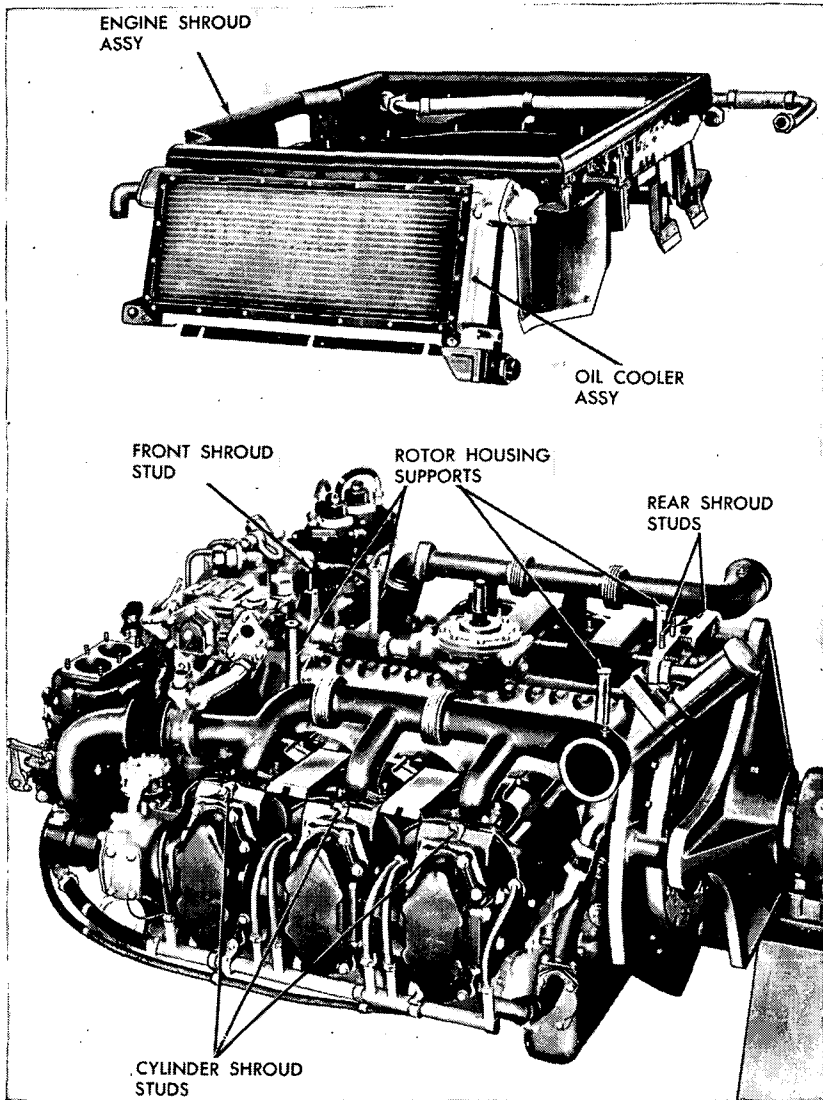

Figure 16. Shroud and oil cooler assembly removed from engine.
- (1) *Oil coolers with shroud.* Disconnect and remove the engine oil cooler inlet line assembly (J, fig. 86). Use wrench 7083738 (C, fig. 6). Disconnect engine oil cooler outlet line (F, fig. 86) at the oil control housing. Lift shroud and oil coolers (fig. 16) from the engine as an assembly.
Remove the two hex-head bolts with integral-teeth lock washers (K and L, fig. 113) holding the oil filler pipe bracket to the shroud. Remove the hotspot outlet housing brackets (T) and (MM) and the hotspot outlet slot top and bottom covers (U) and (V). Disconnect the vacuum heat control line assembly (KK) at the hotspot control valve (B, fig. 83). Remove the four drilled hex-head bolts (E) and their plain washers (fig. 83) holding the hotspot outlet assembly to the top of the carburetor elbow. Remove the assembly. Discard the gasket. Remove the bolts holding the right (1-3-5) and left (2-4-6) side exhaust manifold cooling air inlet elbows (H) and (Z) to the shroud. Remove the elbows. Remove the right (1-3-5) and left (2-4-6) side hotspot inlet slot covers (M) and (LL). Remove the right (1-3-5) and left (2-4-6) side exhaust manifold slot covers (K) and (AA). Remove the slotted nuts (L) and plain washers (B) from the cylinder studs. Remove the cotter pin, washer, spring, drilled flat-head pin, nuts, and bolts from the crankcase engine lifting eye and bracket (KK and GG). Remove the assembly from the engine flange. Remove the self-locking nuts holding the cooling fan outlet vane housing (Q) to the shroud. Remove the vane. Remove the cooling fan and fan clutch assembly (par. 38). Remove the three self-locking nuts (D), the four shroud support drilled hex-head bolts (A), and plain washers (B) holding the fan rotor housing assembly (E) to the engine. Disconnect the oil cooler lines at the oil control housing end. Loosen the two clamps on the hose between the crankcase oil filler pipe and the breather tube flame arrestor assembly (M, fig. 113). Loosen the clamps between the flame arrestor and the carburetor-to-oil-filter breather tube (N). Loosen the two clamps on the hose between the right (1-3-5) side carburetor and the carburetor-to-oil-filler breather tube (N), (fig. 113). Remove the flame arrestor and the breather tube from the shroud. Remove the shroud and oil cooler assembly from the engine (fig. 16).